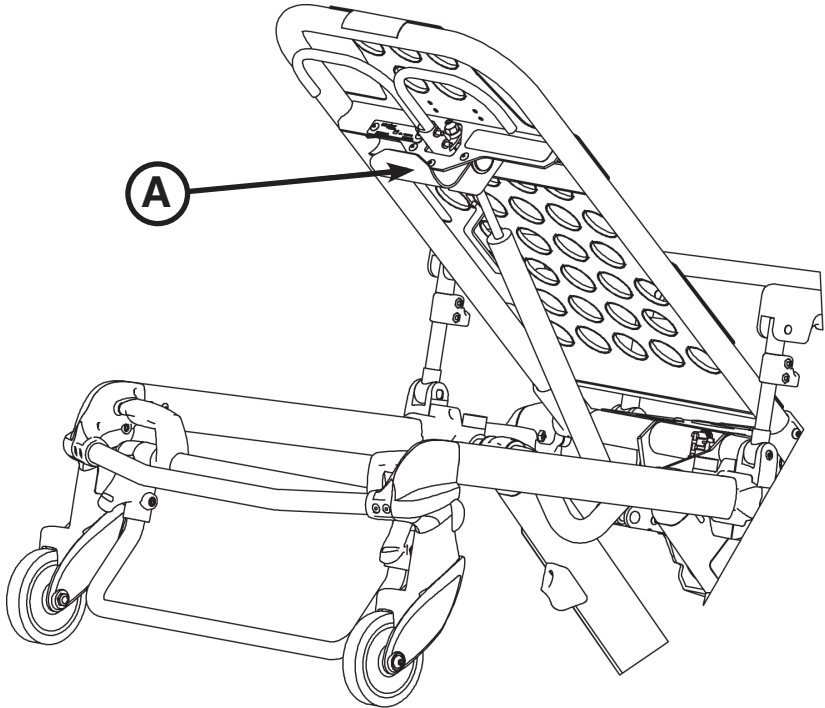

Figure 46: Equipment Hook
Use the equipment hook (A) (see Figure 46) to hang additional accessories or equipment, such as defibrillators or monitors.